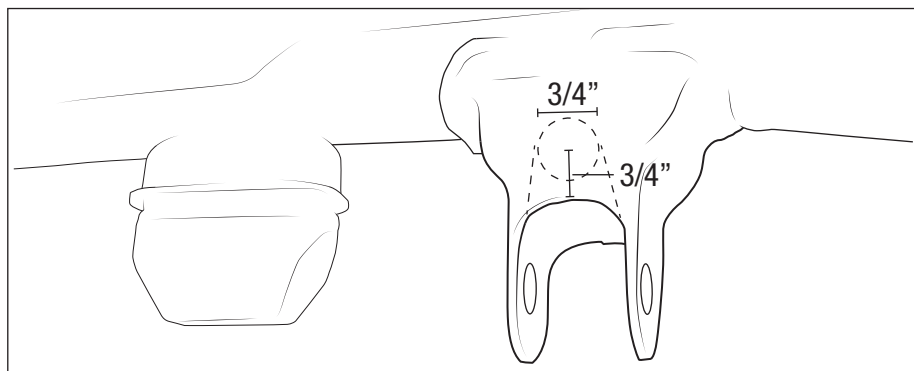

Figure 20
- a. **POWER WAGON ONLY** Other models skip to step 6b – Modify the track bar bracket as shown (fig. 20). Measure 3/4" up to mark the center, then drill a 3/4" hole. Remove remaining material.